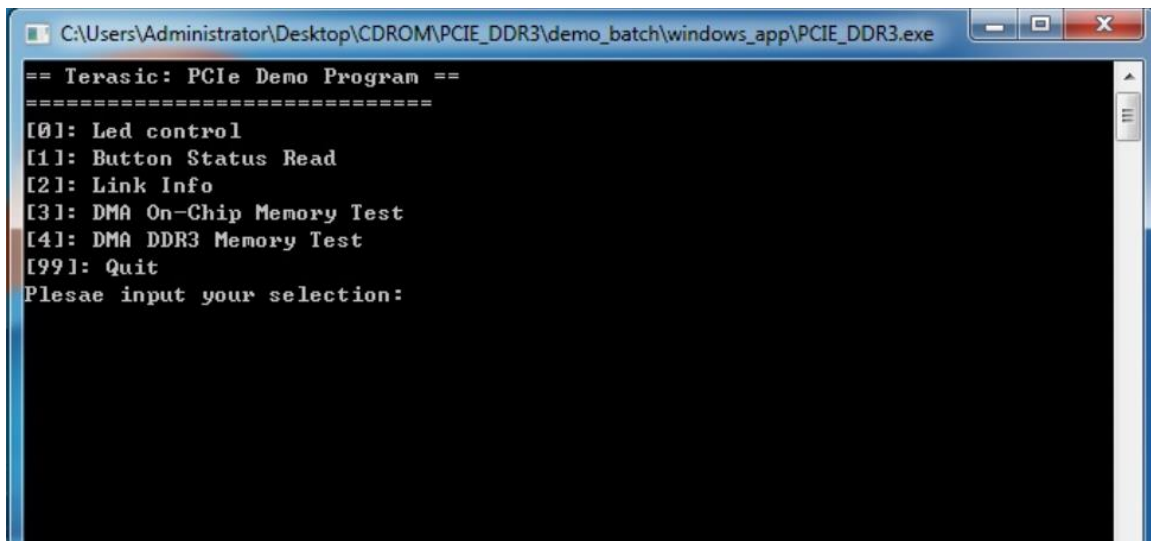

Figure 0-16 Screenshot of Program Menu
7. Go to windows_app folder, execute PCIE_DDR3.exe. A menu will appear as shown in **Figure 0-16**.